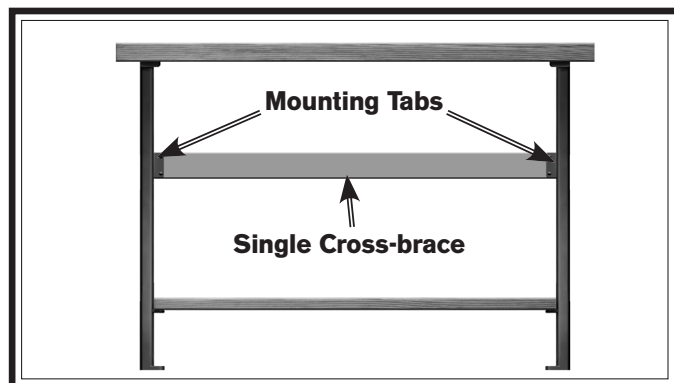

Figure 6. Single cross brace.
11. Install cross-bracing to provide additional stabilization between the legs, or between the legs and bench top. Two possible methods are shown in **Figures 6–7**